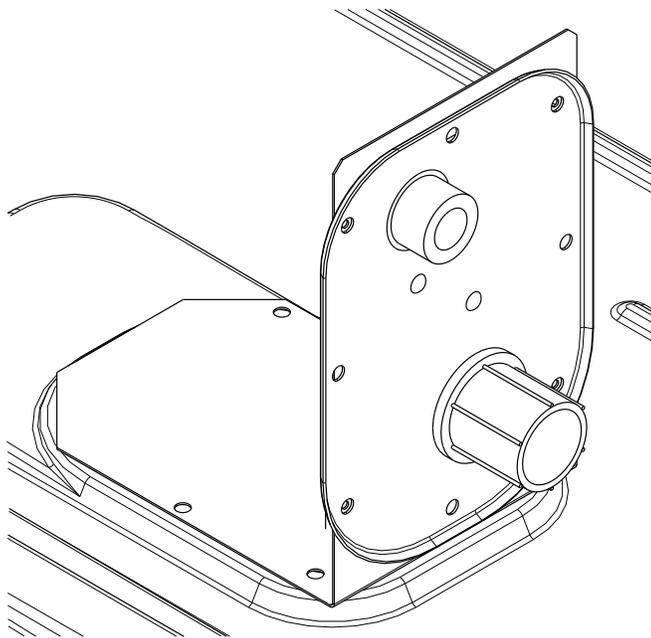
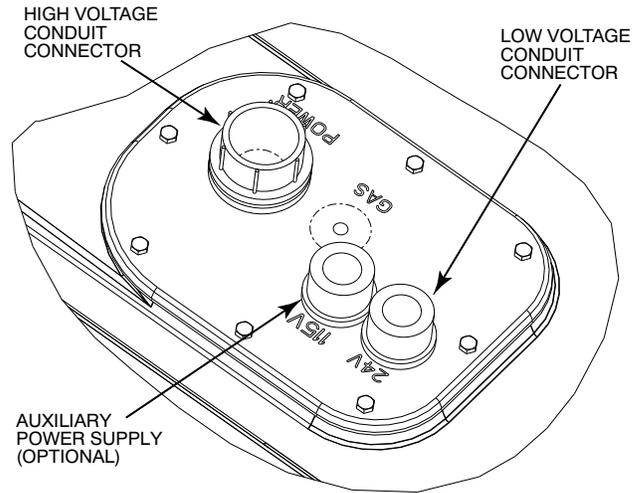

Fig. 25 — Thru-the-Base Fitting Assembly (Shown in Shipping Position)
Fig. 26 — Thru-Base Connection Fittings
This service connection kit consists of a 1/2-in. electrical bulkhead connector and a 3/4-in. electrical bulkhead connector, connected to an "L" bracket covering the embossed (raised) section of the unit basepan in the condenser section (see Fig. 25 for shipping position). The 3/4-in. bulkhead connector enables the low-voltage control wires to pass through the basepan. The 1/2-in. bulkhead connector allows the high-voltage power wires to pass through the basepan. See Fig. 26.
3. Place the gasket over the embossed area in the basepan, aligning the holes in the gasket to the holes in the basepan. See Fig. 25.